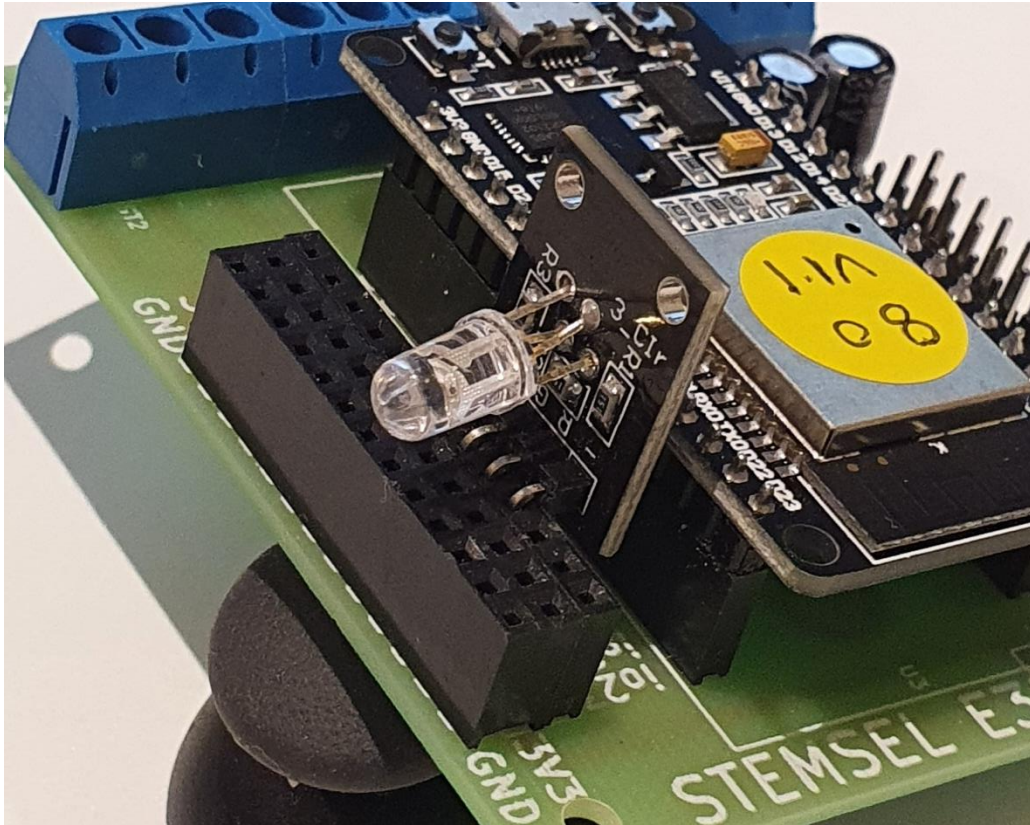

Figure 11: E32W board connection with RGB module (side view).
- a.) Plug in the negative pin on the 4-pins RGB LED into port io3, the rest should be in horizontal order and plug into ports io21, io19, io18. Please refer to **Figure 11** for more detail. (Note that there should be 3 rows of ports left starting from the GND pin.)